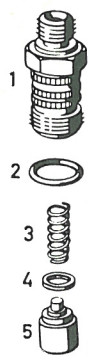

Fig. 07-41/5
**13** Screw out pipe union (1) of the first pump cylinder, then remove rubber sealing ring (2), coil spring (3), and pressure valve (5) with sealing ring (4) (Fig. 07-41/5).
Screw pipe union without parts (3 to 5) back in and screw overflow pipe (5) back on (Fig. 07-41/6).